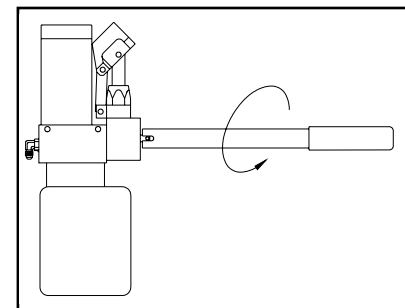

FIGURE 2-11: DEPLOY OR LOWER PLATFORM
- 3) Refer to **Figure 2-11**. Turn valve 1/4 turn COUNTER-CLOCKWISE to begin lowering platform. When platform reaches vehicle interior floor level turn valve CLOCKWISE to close. Do not lower platform below vehicle floor level. The rear edge of inboard rollstop must rest flat against vehicle floor.